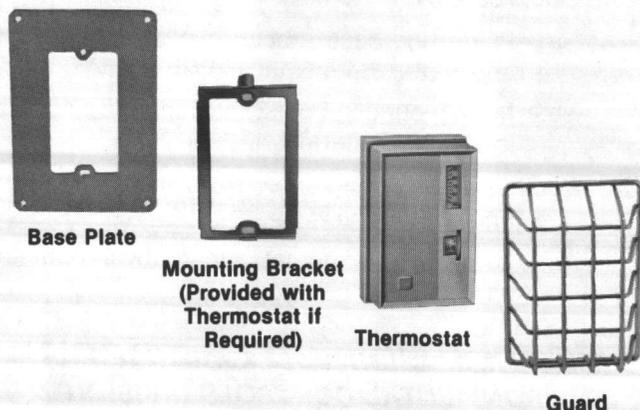

Figure 1.
1. Thermostats with mounting bracket provided (Figure 1).